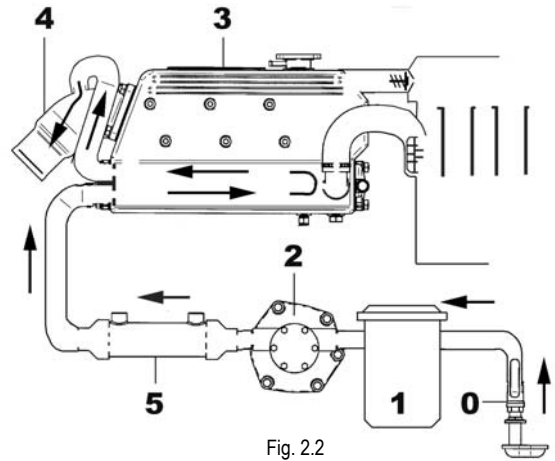

Fig. 2.2
2.2.2 "SEAWATER" COOLING CIRCUIT (Fig. 2.2)